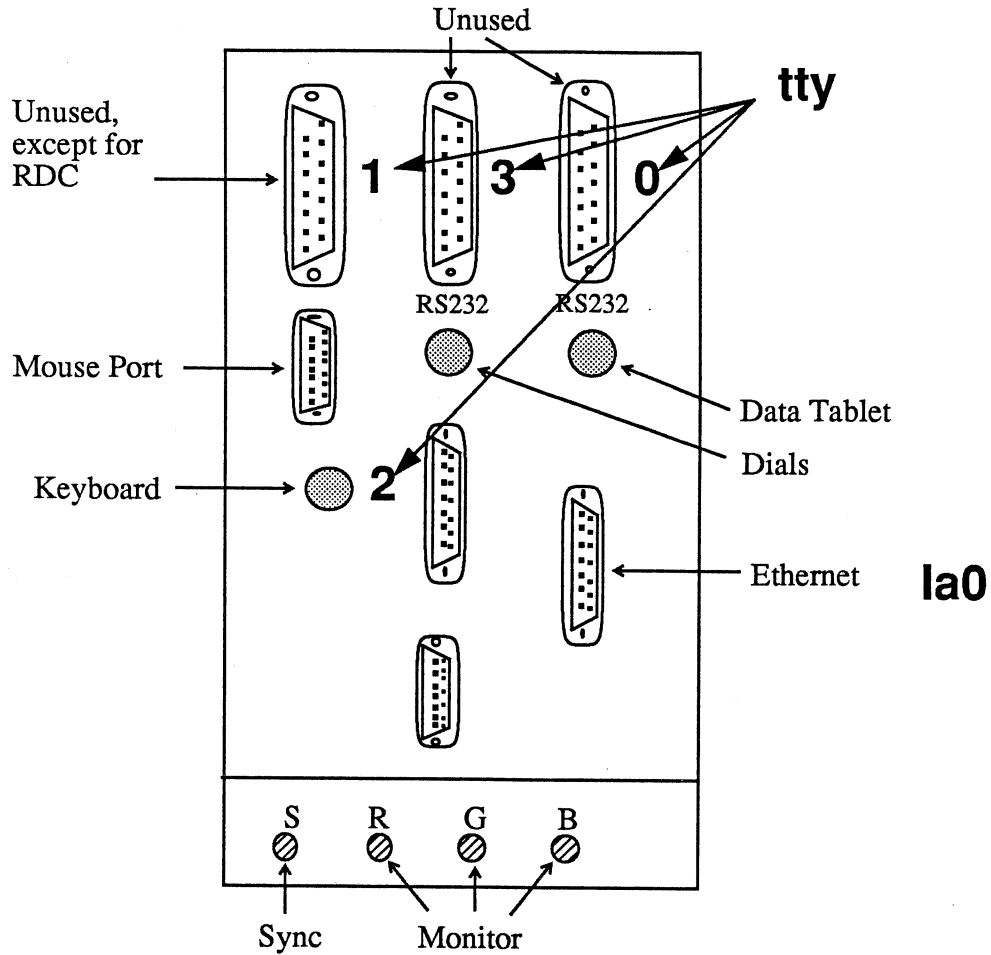
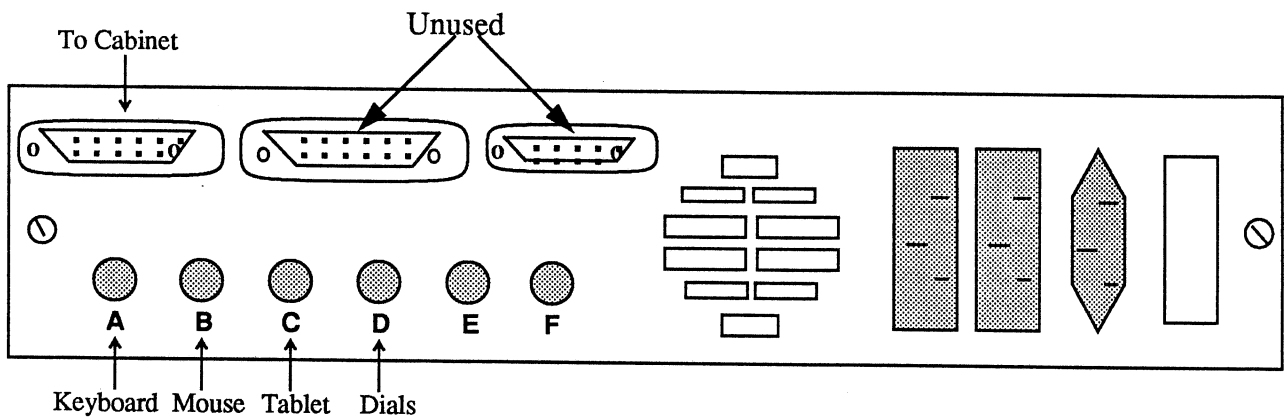

Figure 3-1. Default Cabinet Port Configuration (without RDC)
Figure 3-2. RDC Port Configuration
- 3) Mouse should be connected to the control unit CPU I/O control panel port 1 or to the RDC port B. If the system includes an RDC, the RDC connects to the CPU I/O control panel on port 1. This port is also used for the debug terminal. (see figure 3-1 on the next page)
Figure 3-1 shows the default configuration for plugging in peripherals in a system without an RDC. Figure 3-2 shows which RDC ports the peripherals use.